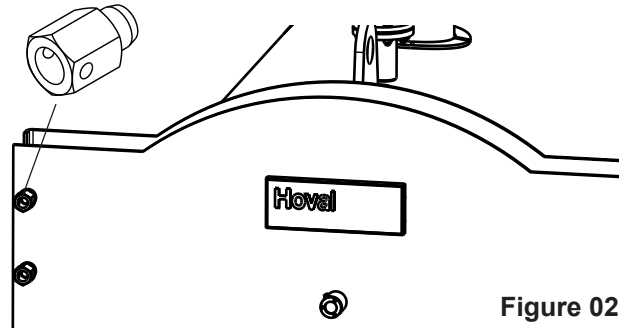

Figure 02
- Unscrew the hexagon locking nuts with holes with the supplied steel spike (Figure 02).